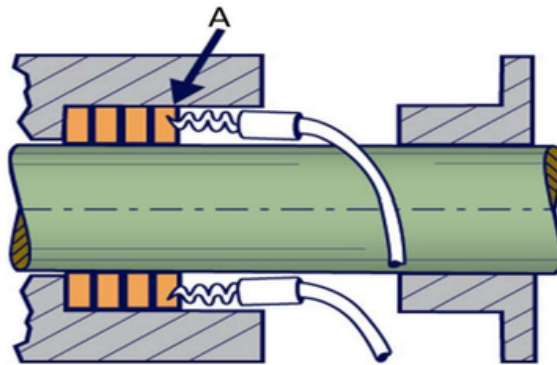

Figure 41. Packing Removal
2) **REMOVE ALL OLD PACKING FROM THE STUFFING BOX** (see Figure 41). Packing extractors and water jets are suitable tools for removing packing without damaging the stuffing box. Clean the box and shaft or sleeve thoroughly and examine the shaft for wear and scoring. Replace the shaft or sleeve if wear is excessive. Make certain that the shaft is concentric to the bore of the stuffing box.